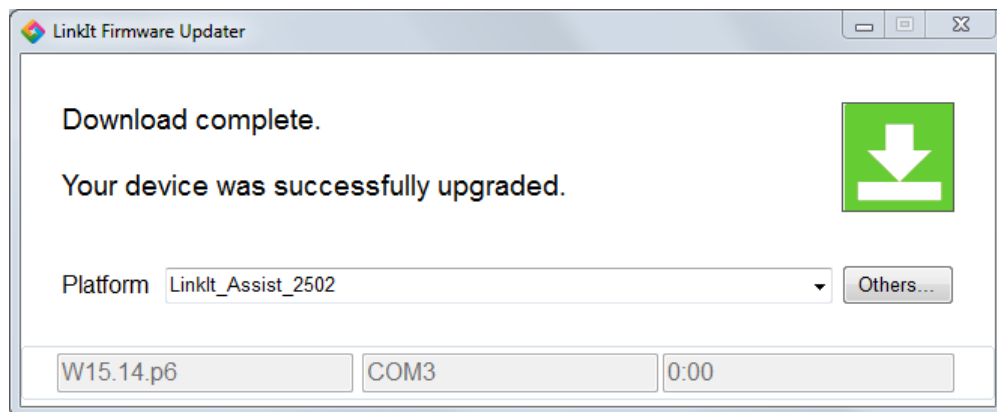

Figure 15 Firmware Updater Download Complete screen
- 6) When the firmware update is complete this will be confirmed in the **Download Complete** page, as shown in Figure 15.